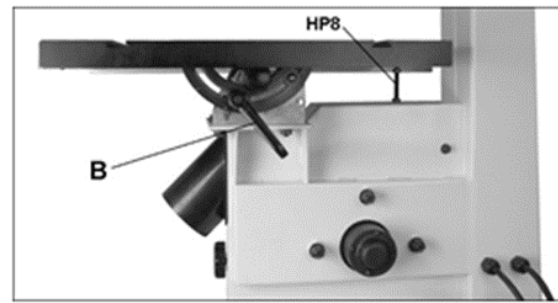

Figure 7-3: table tilt
Refer to Figure 7-3.
1. Loosen lock handle (B, Figure 7-3).
3. Tighten lock handle (B).